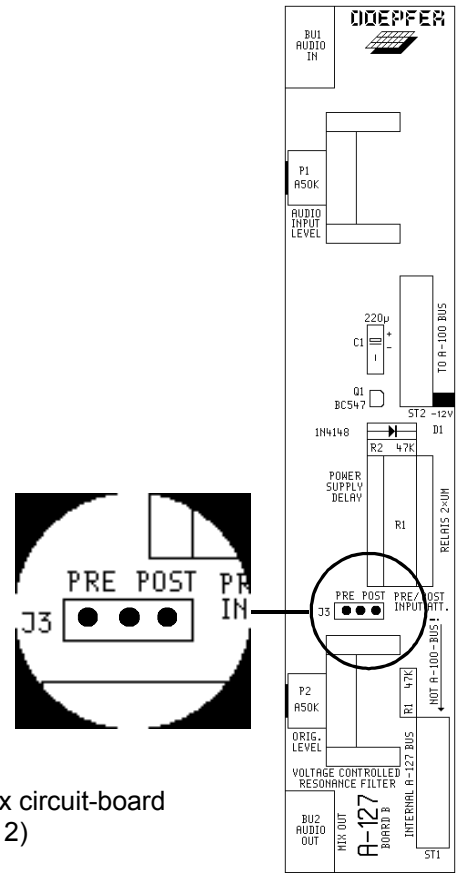

fig. 8: A-127 mix circuit-board (versions 1 and 2)
To change this, you can alter the position of **Jumper J3** on the **Mix circuit-board** from "Pre" (the factory default) to "**Post**" (see fig. 8). In this case, control ① comes before the Original signal level control ⑧, and so does affect both the filter and Original signals.